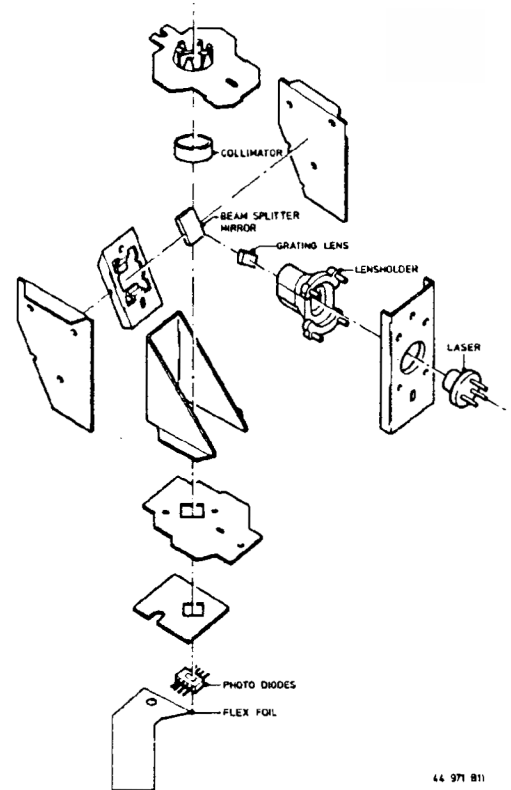

Fig. 5
- The laser and photodiode assy, see fig. 5.